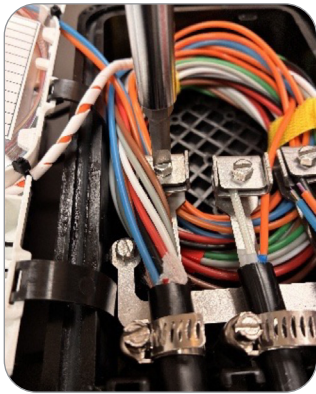

Figure 16
5. Secure the strength member to the strength member clamp and tighten the screw. (Figure 16)